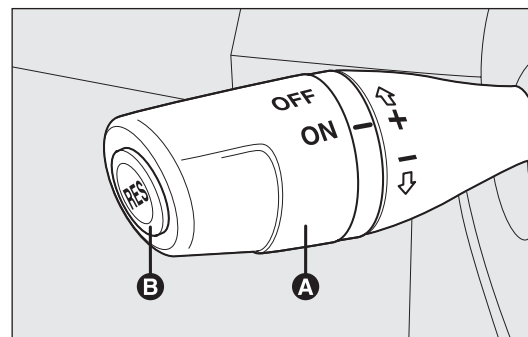

fig. 39
Turn twist switch A-fig. 39 to ON.
- turn twist switch A-fig. 39 to ON and press the accelerator pedal until you reach the required speed;
- press button RES B-fig. 39.
- pressing the accelerator pedal; in this case, the system is not really switched off but the request for acceleration takes priority. The cruise control is, however, active and you do not need to press button RES B-fig. 39 to restore the previous conditions when you have finished accelerating.